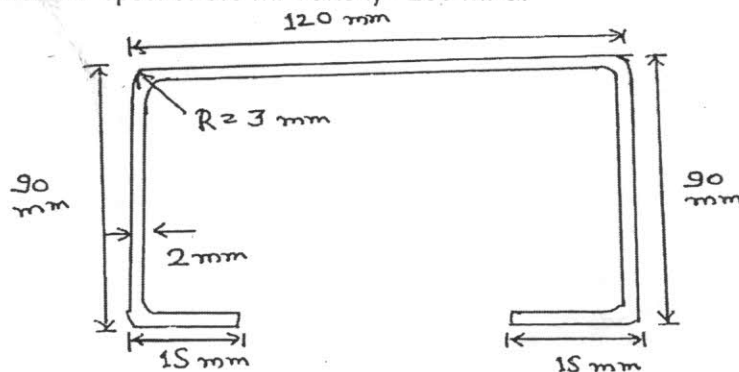

Fig. 10(b)
b) Evaluate the effective section modulus of the section shown in Fig. 10(b) and hence the maximum UDL it can carry when used as a simply supported beam over an effective span of 3.0 m. Take $f_y = 235$ MPa.